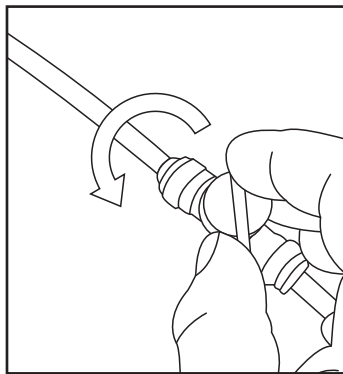

Fig 2
- Turn on the tap making sure there are no leaks along the supply line (see Fig2).